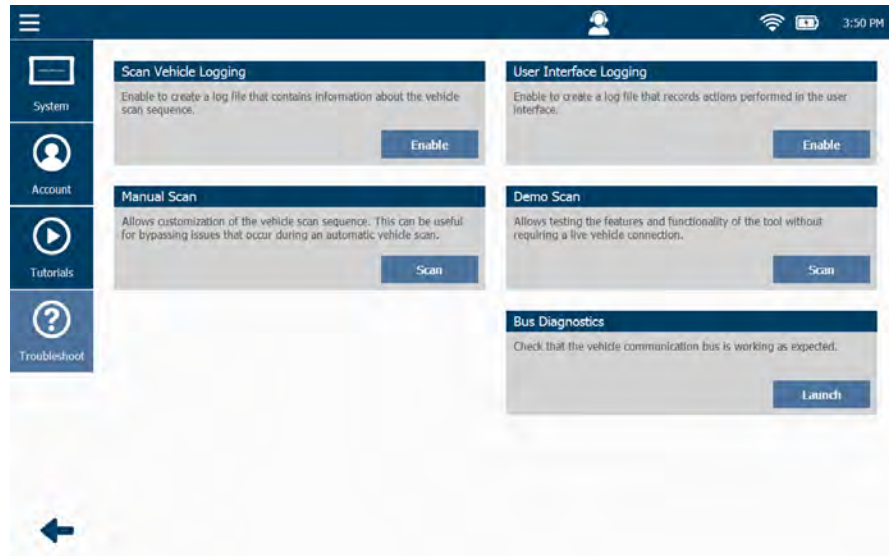

Figure 8.11 *Troubleshoot Menu*
- 1 Touch the **Scan** button (see Figure 8.11).
Select **End Session** from the drop-down menu in the upper-left corner of the screen to terminate Demo Mode and to return to the Troubleshoot Menu (Figure 8.11).
- 5 Touch the **Back Arrow** to return to the Troubleshoot Menu (Figure 8.11).